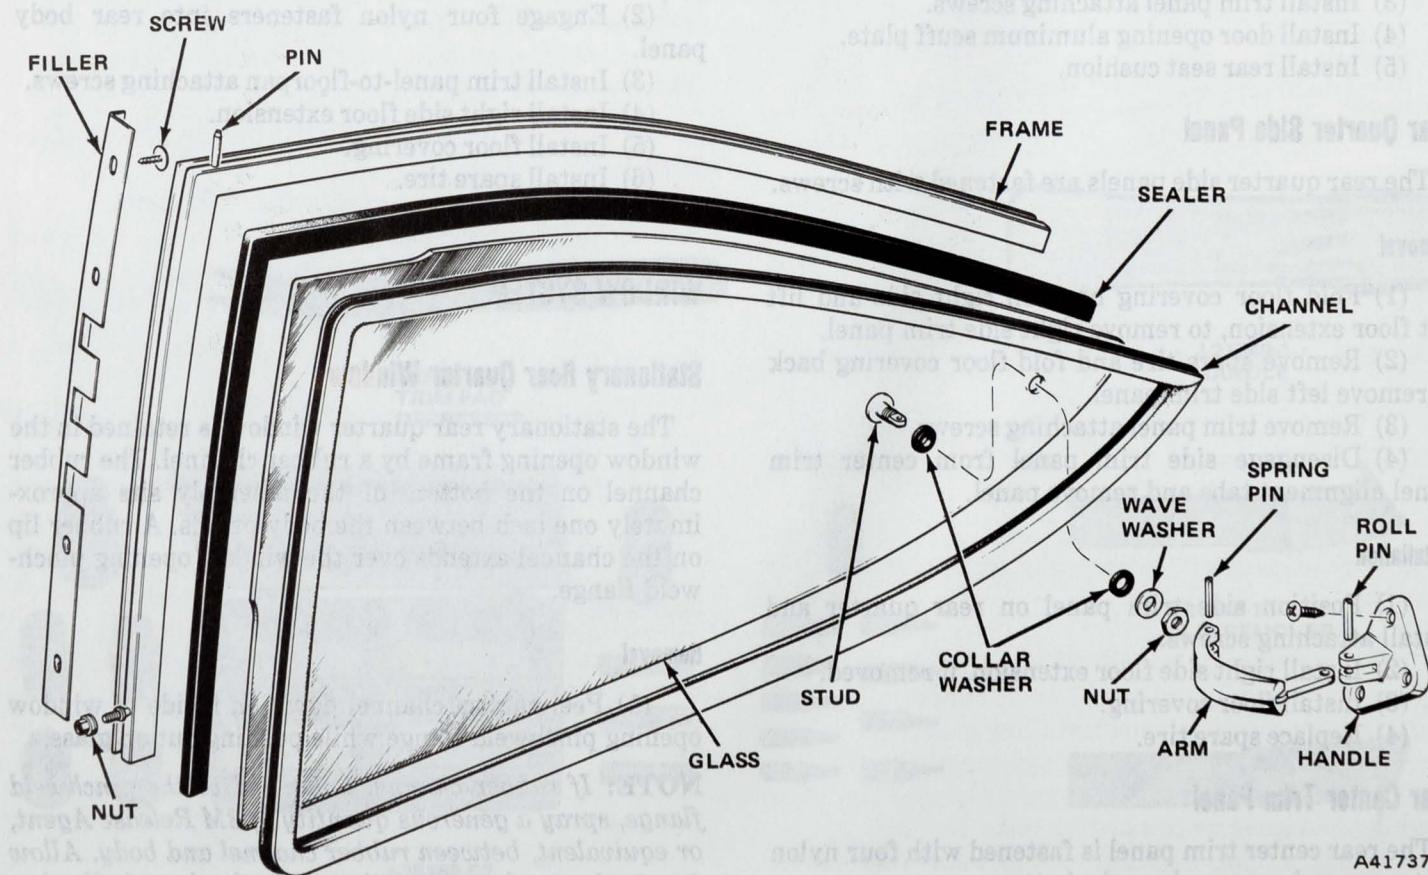

Fig. 3K-6 Swing-Out Rear Quarter Window Assembly
(4) Open window carefully and pull lower end of frame away from pillar (toward rear) to disconnect lower bolt from pillar and slide upper pin from roof rail.
(5) Remove handle arm from stud by carefully driving out spring pin (fig. 3K-6).
(6) Remove stud nut, wave washer, and collar washer from glass.
(7) Remove stud and collar washer from glass.
- (1) Install stud and collar washer in glass.
- (2) Install collar washer, wave washer, and nut on stud.
- (3) Install handle arm-to-stud roll pin (fig. 3K-6).
- (4) Install frame upper pin in roof rail, engage lower pivot bolt into pillar hole, and install lower pivot attaching nut.
- (5) Install plug in forward side of B-pillar.
- (6) Install window handle-to-body attaching screws.